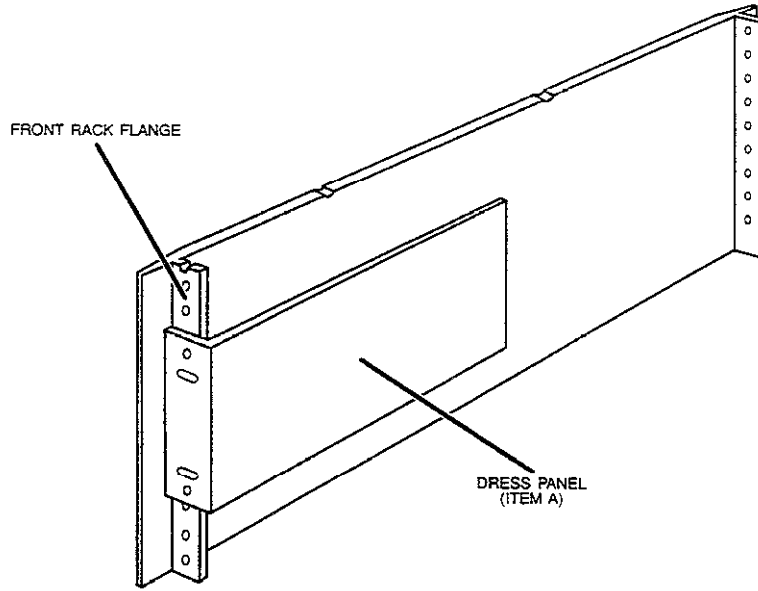

Figure 1.
1. Select the desired location in the rack and place one of the dress panels (Item A) against the front flange as shown in Figure 1. The two slotted holes in the dress panel dictate where the fasteners are to be installed on the rack flange. Place the dress panel on the other front rack flange to locate the other two mounting holes.